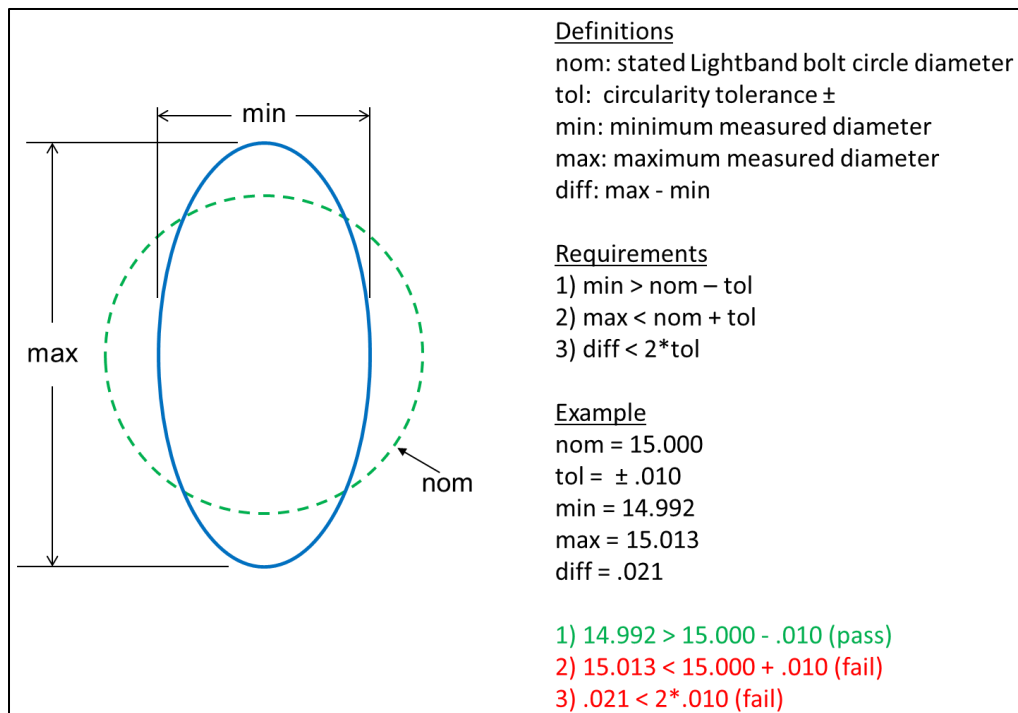

Figure 9-1: Circularity example
9.1.5	Verify the circularity of the Lower Ring's adjoining structure complies with the most recent version of PSC Document 2003336 Advanced Lightband User's Manual . See note 1 and Figure 9-1 below. Required Circularity [in]: _____ Measured Circularity [in]: _____
9.1.6	Verify the circularity of the Upper Ring's adjoining structure complies with the most recent version of PSC Document 2003336 Advanced Lightband User's Manual . See note 1 and Figure 9-1 below. Required Circularity [in]: _____ Measured Circularity [in]: _____